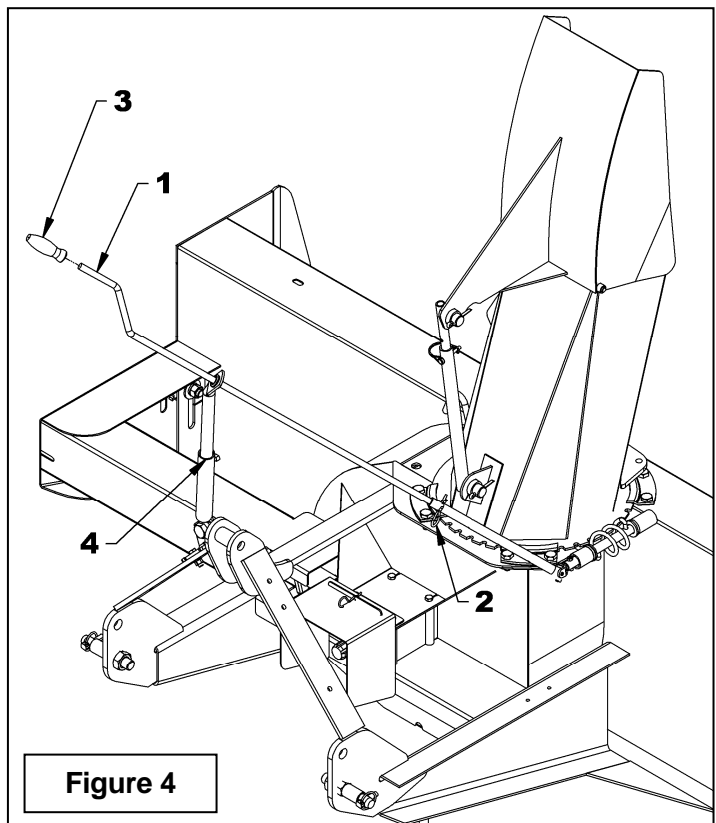

Figure 4
11. **Figure 4:** Insert the handle (item 1) in the handle support (item 4) and in the rotation tube. Select desired length, align nearest holes and secure with the 4 mm x 80mm hairpin (item 2). Install the plastic handle (item 3).
13. **Figure 4:** To insure the manual rotation functions properly, position the handle support (item 4) the closest possible to the top link mounting point of the three point hitch while making sure it does not come into contact with the operator's seat when the snowblower is fully raised.